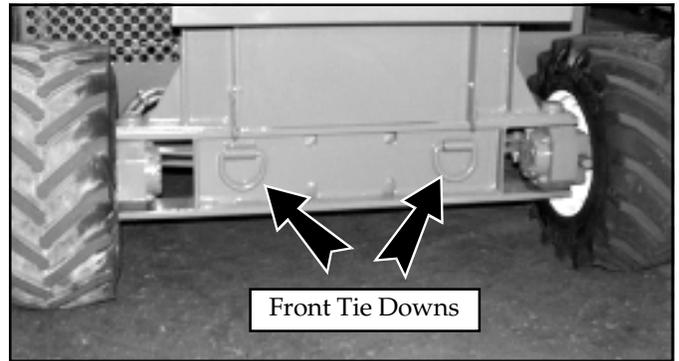

Figure 8: Transporting Work Platform
1. Secure straps to chassis tie down/lifting lugs only (Figure 8 & 9).
2. Secure the work platform to the transport vehicle with chains or straps of adequate load capacity attached to the chassis tie down/lifting lugs (Figure 8 & 9).